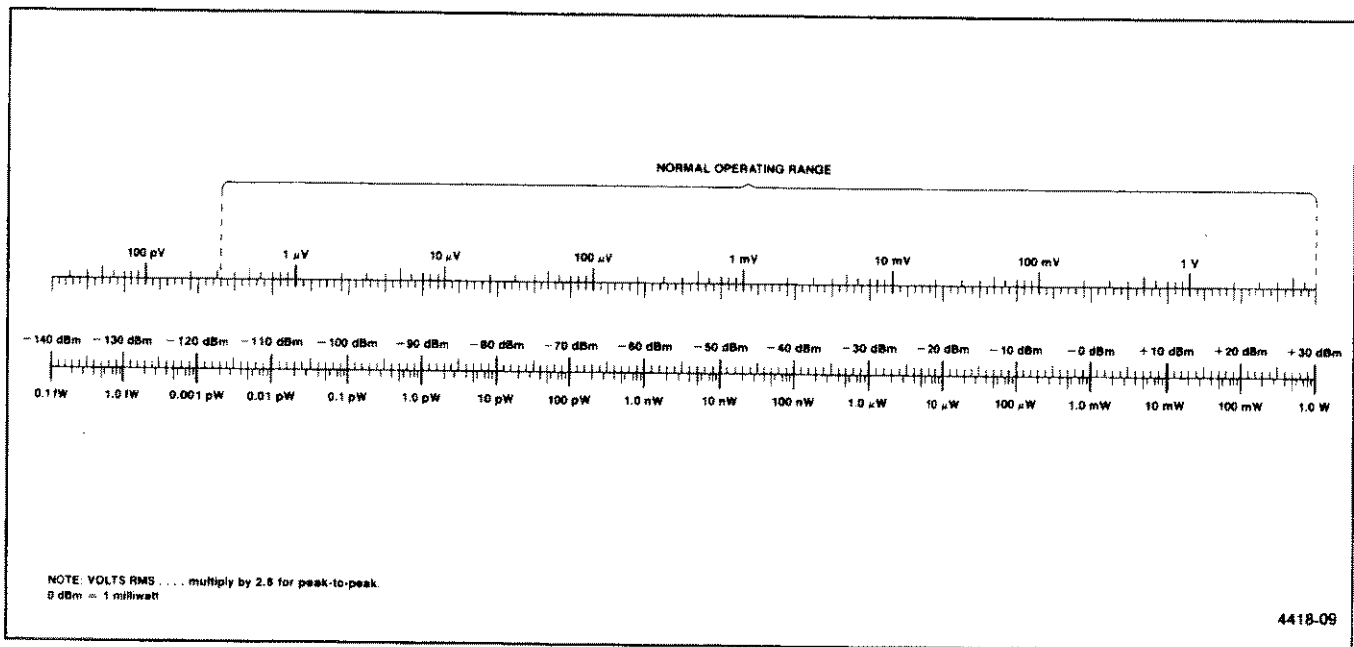

Figure 6-3. Volts-dBm-Watts conversion chart for 50 Ω impedance.
**Amplitude Conversion** — A conversion chart, as shown in Figure 6-3, can be used to convert input signal levels of voltage or power to dBm, dBV, dBmV, and dB.